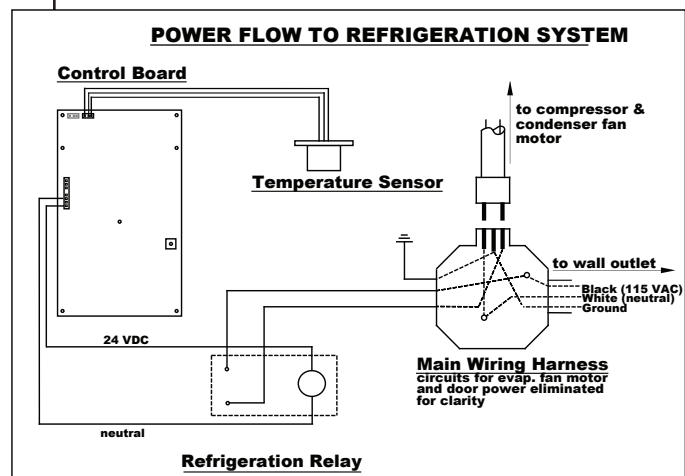

Figure 2.2. Refrigeration power flow.
**OPERATION:** The rising temperature in the cooling compartment is reported to the control board from the temperature sensor (see Figure 2.2). The control board registers the current temperature inside the vender's cabinet. When it rises equal to or above the pre-programmed cut-in temperature, the control board will then complete the circuit to the refrigeration relay to energize its coil (shown in Fig. 2.2). The refrigeration relay coil energizes and closes the contact between the common and normally open positions (shown in Fig. 2.2). This allows power (115 VAC) to travel through the refrigeration relay switch and to the main wiring harness. The main wiring harness will power the unit immediately.
As the temperature drops, the temperature sensor reports this to the vender's main control board. When the temperature drops below the preset cut-out temperature, the control board will disable the refrigeration relay. This will break the refrigeration relay switch connection (shown in Fig. 2.2), thus canceling power to the refrigeration unit.